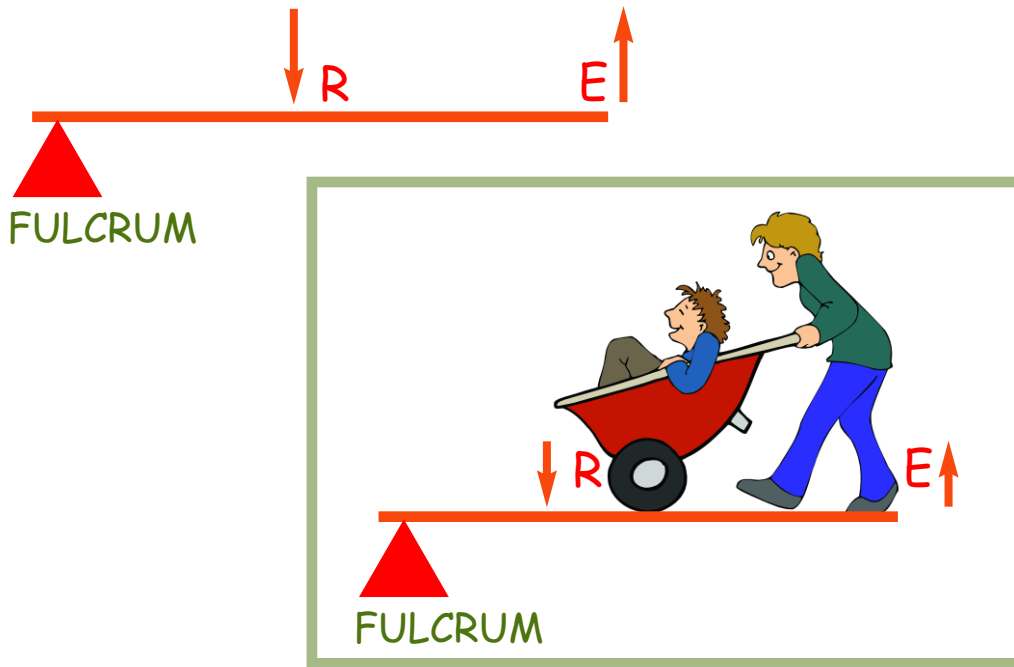

Figure 2 Second Class Lever
Second Class lever (FRE) - The *Effort (E)* and the *Resistance (R)* are located on the same side of fulcrum and the *Resistance (R)* is between fulcrum and *Effort (E)* as shown in *Figure 2, Second Class Lever* below. An example of a second class lever is a wheelbarrow.